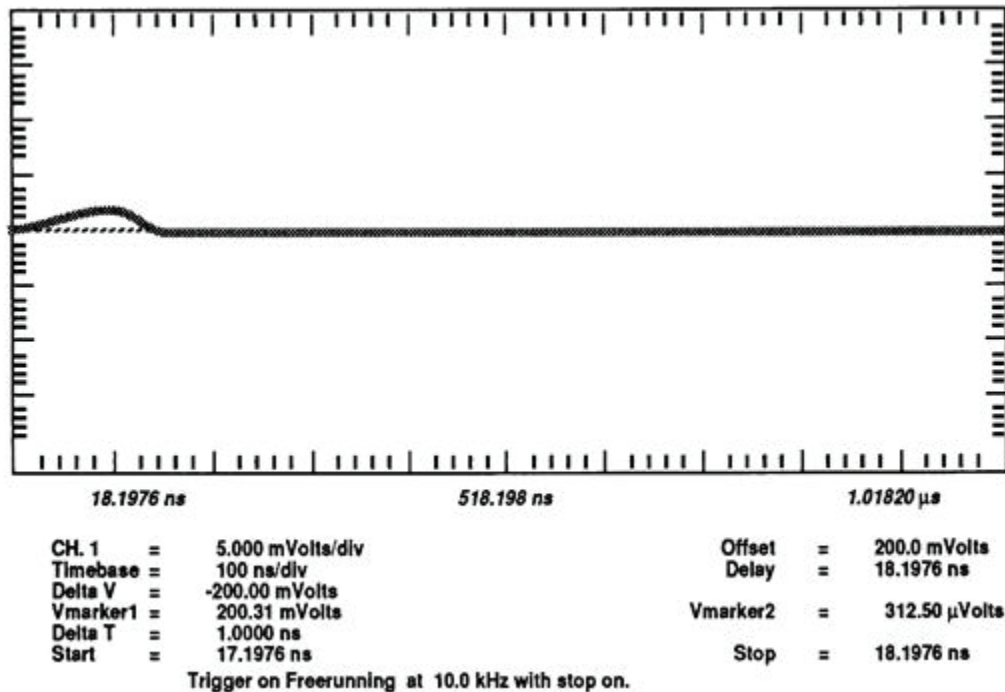

Figure 20. Top adjustment.
x. Adjust TOP on horizontal assembly A1 (fig. 11) until the trace on the right of display coincides with **MARKER2** position (fig. 20).